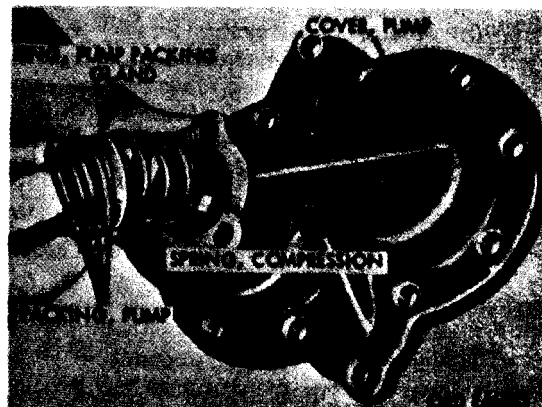

Figure 84. Disassembling pump cover
- (c) Remove pump packing, pump packing gland ring, and compression spring from recess in outside of pump cover (fig. 84). Remove two ball bearings from inside of pump cover (fig. 83).
(2) Remove upper and lower shaft assemblies.
- (c) Install compression spring, pump packing gland ring, and new pump packing (fig. 84) in cover.
- (d) Install pump packing gland on pump upper shaft and position to pump cover (fig. 84). Install the three cap screws and lockwashers attaching pump packing gland to cover.